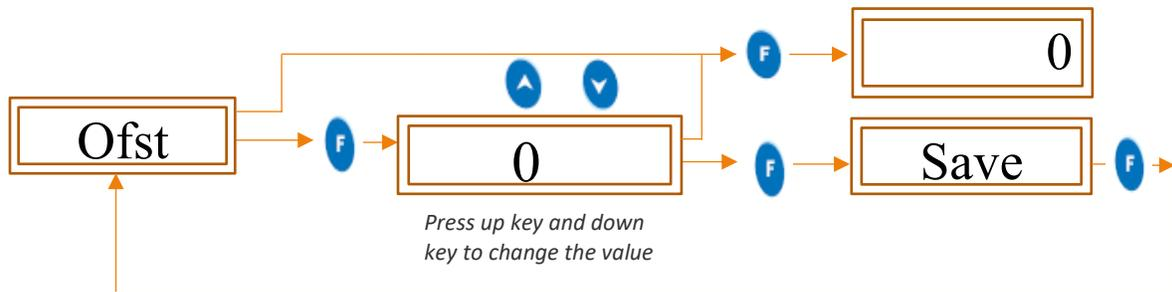

Figure 17 OFST (Offset)
- To set the offset, follow the procedure shown in figure 17.